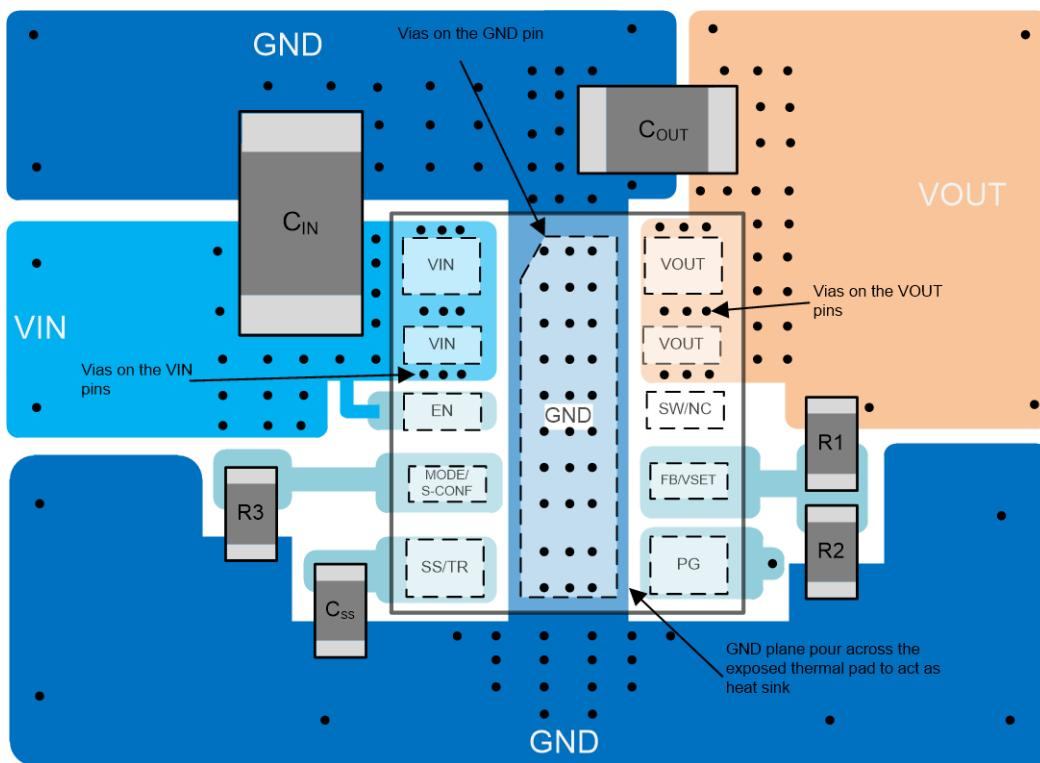

图 8-61. Layout
- See 图 8-61 for the recommended layout of the TPSM82901, which is designed for common external ground connections. TI recommends placing all components as close as possible to the package pins. The input and output capacitors placement specifically, must be closest to the VIN, VOUT, and GND pins of the TPSM82901.
- Refer to 图 8-61 for an example of component placement, routing and thermal design. The recommended layout is implemented on the EVM and shown in its user's guide.
- Generate as large a GND plane as allowable on the top and bottom layers, especially right near the package. The exposed thermal pad of the device sits right at the middle of the package. This is ideal for thermal dissipation. To take advantage of that, TI recommends the ground plan to cross through the package to allow maximum ground plan connection with the exposed pad. See 图 8-61 how the north ground pour is connecting with the south ground pour as it crosses through the exposed pad of the package.
- Refer to 图 8-61 for an example of component placement, routing and thermal design.